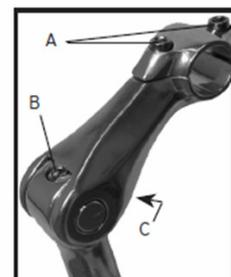

Figure 12- Adjustable-rise quill stem
- Quill-type (Figure 12)
To adjust the height of the adjustable-rise stem in Figure 12, first change the stem angle, which gives access to the stem expander bolt.
1. Loosen the angle adjustment bolt (Figure 12) until the stem angle can be changed.